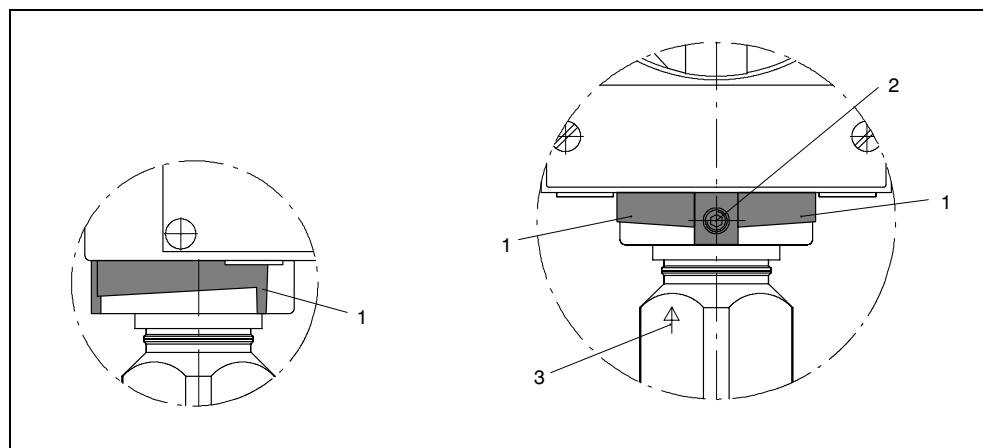

Figure 49 Range of rotation of the measuring cell (in pressure and absolute pressure transmitters of the pressure series)
Only a limited rotation is permitted! The range of rotation (1, Figure 49, pg. 90) is marked at the base of the electronics housing, there is an orientation mark (3) on the neck of the measuring cell which must stay within the marked area when rotating.